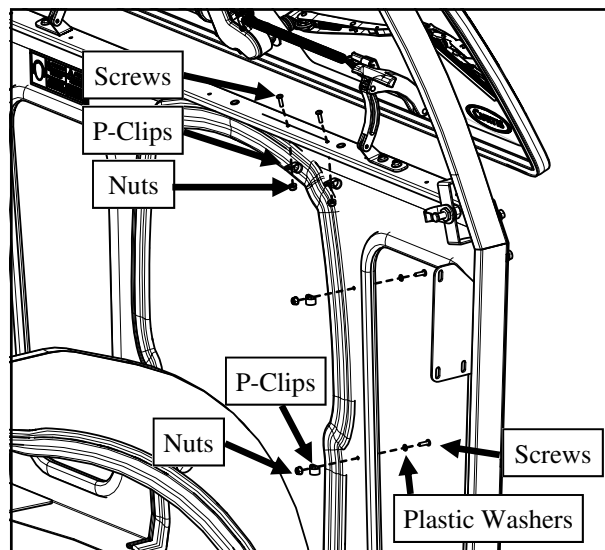

Fig. 14.1 (Wire Harness Installation)
14.1 Connect the wiper wire harness to the previously installed switched power wire harness (from step 2). Secure both wiring harnesses to the cowl using the supplied P-Clips, plastic washers and hardware. See Fig. 14.1.